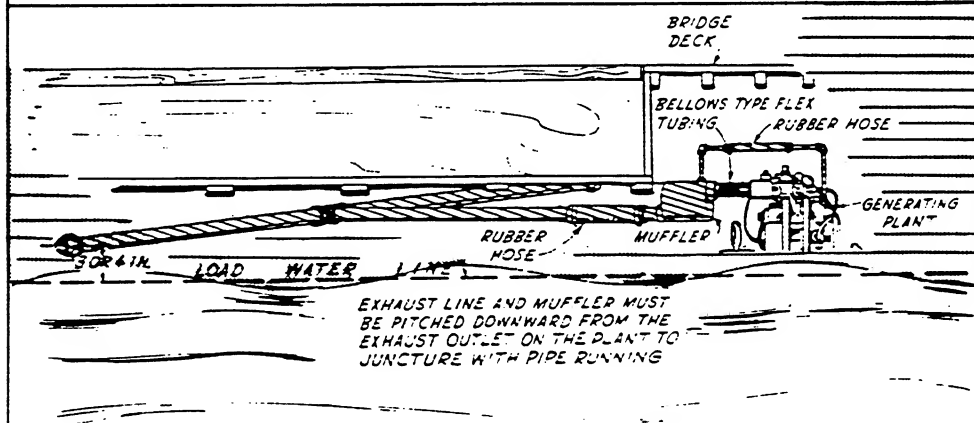

FIG. 5
3. If so desired, the muffler may be installed between the generating plant and an exhaust line to the sides of the vessel. The water in this case can be put into the muffler or into the exhaust line, whichever is most convenient. This type of installation is recommended for sailing vessels as the exhaust gases and cooling water will always escape properly regardless of which way the vessel heels. See Fig. 5.